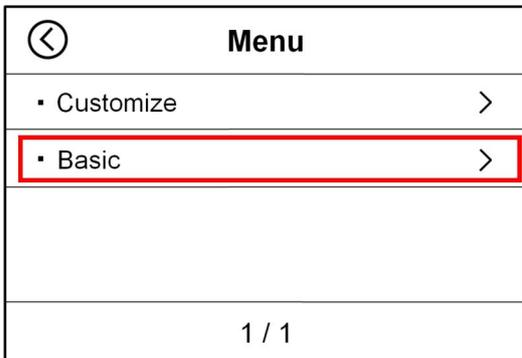
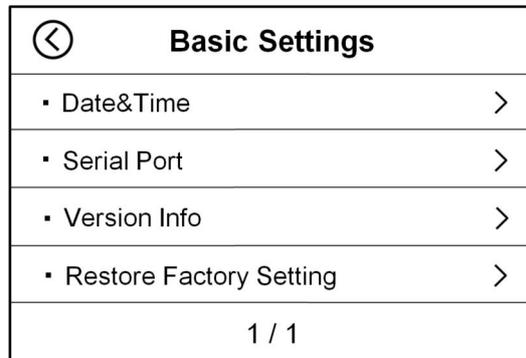

Figure 39
Figure 60
2) Press the “” key to enter the main interface of USER MENU, as shown in Figure 39 below. Press “**Basic**” to enter into Basic Settings, as Figure 60.